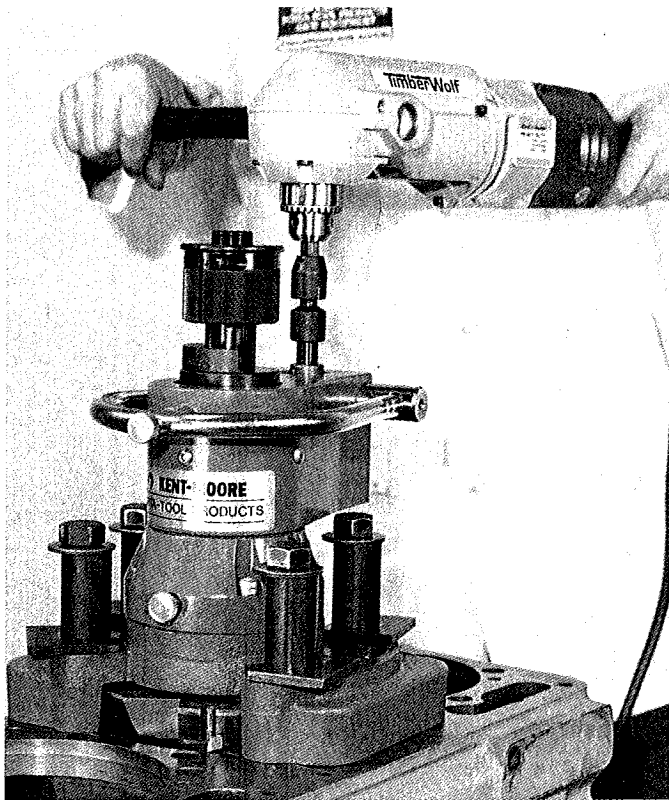

FIGURE 12
11. Install universal drive adapter and drill onto driveshaft of Porta-Matic and prepare to bore without stopping until the machine freewheels. (See Figure 12.)